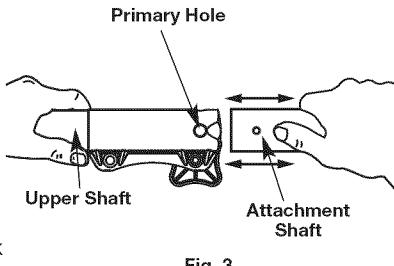

Fig. 3
- While firmly holding the upper shaft, pull the trimmer attachment or other attachment straight out of the Convertible™ coupler (Fig. 3).